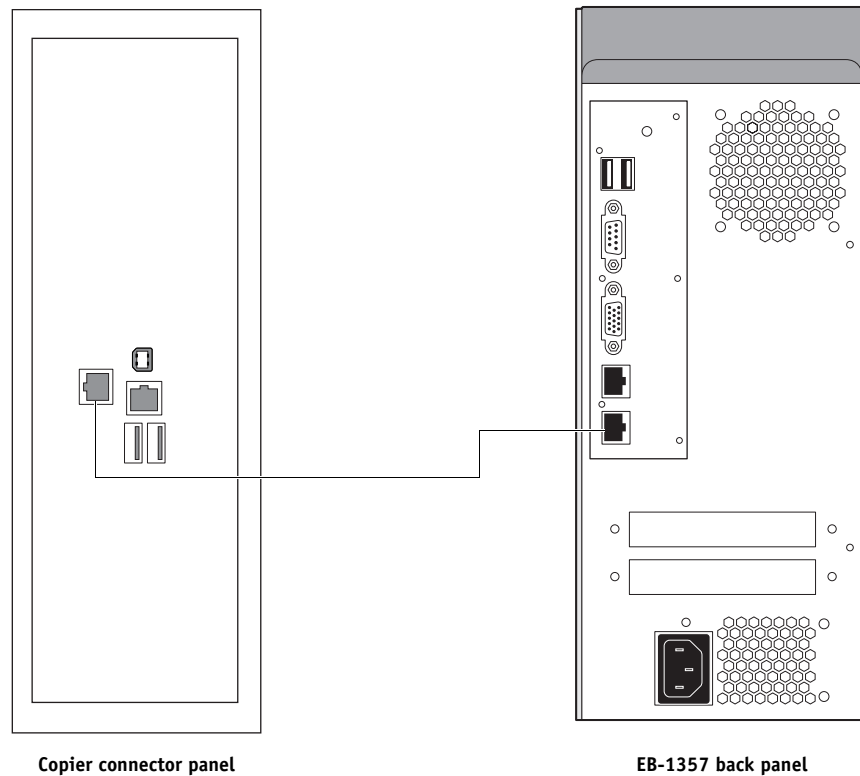

FIGURE 6: Copier and EB-1357 cable connection
5. Connect one end of the cable to the video board interface port on the EB-1357 and the other end of the cable to the correct Ethernet port on the copier, as shown in Figure 6.